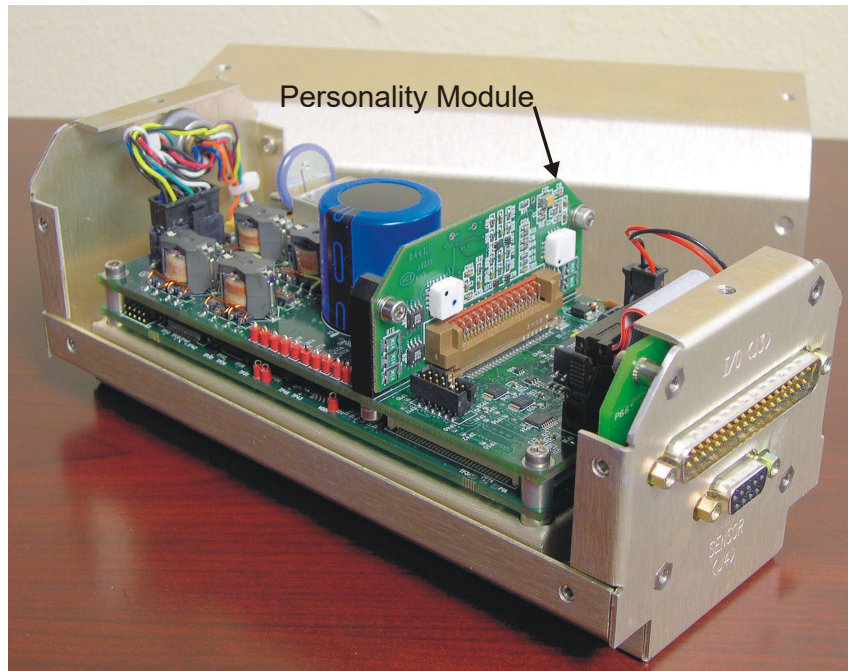

Figure 26. Personality Module Location
3. With an earth-ground static protection strap on, remove the two screws holding the personality module to the black plastic board supports so the Personality Module can be removed (see Figure 26). Pull out the Personality Module and replace it with the new module. Replace the screws to hold the new Personality Module in place.